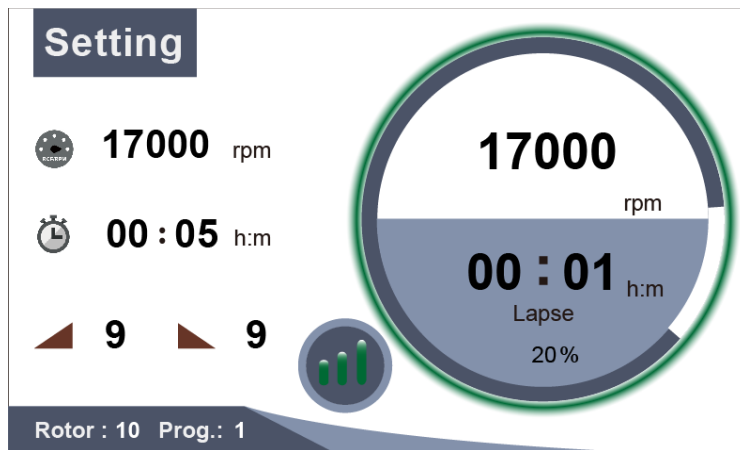

Figure 7-4 Processing Screen
(2) Press  button again to start running.
■ After accelerating for 8 seconds, the interface will display the processing screen, see the Figure 7-4.